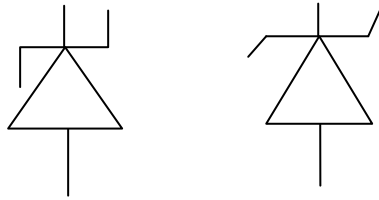

Fig. 1.14 Symbols of zener diodes.
- VI. Figure 1.14 shows two symbols for a Zener diode. - the symbols the lines resemble the alphabet 'z' which stands for Zener.